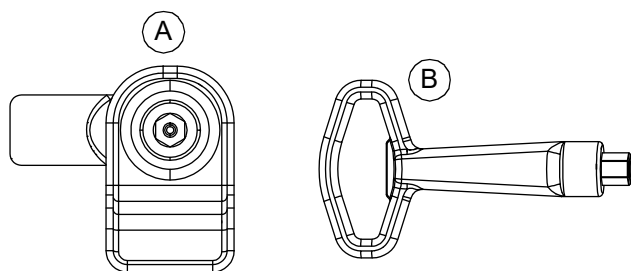

Figure 3-2. Access Panel Key and Latch (Typical)
1. See **Figure 3-2**. Remove key (B) from bag attached to door of unit.